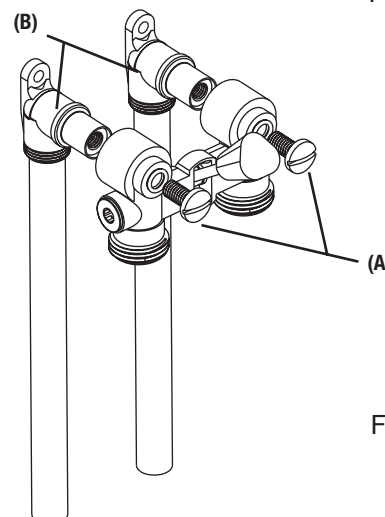

Figure 2
- B3. Remove the #2 valve by unscrewing both slotted screws (A) on the top of the valve. (See Figure 2)
- B4. Remove the body of the valve by drawing the valve off the inlet fittings (B). Go to step #6.